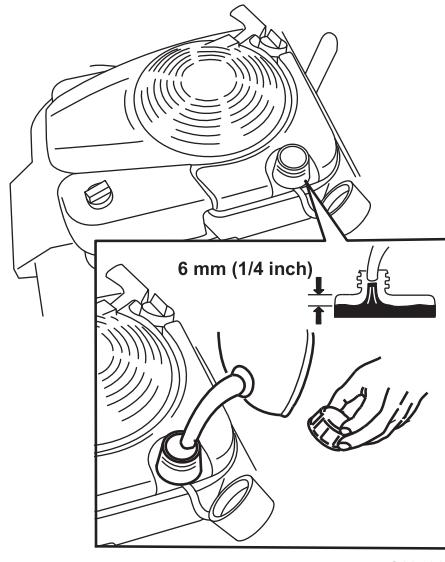

Figure 13
1. Clean around the fuel-tank cap, and remove the cap from the tank (Figure 13).
2. Fill the fuel tank, leaving at least 6 mm (1/4 inch) from the bottom of the neck empty to allow the gasoline room to expand (Figure 13).